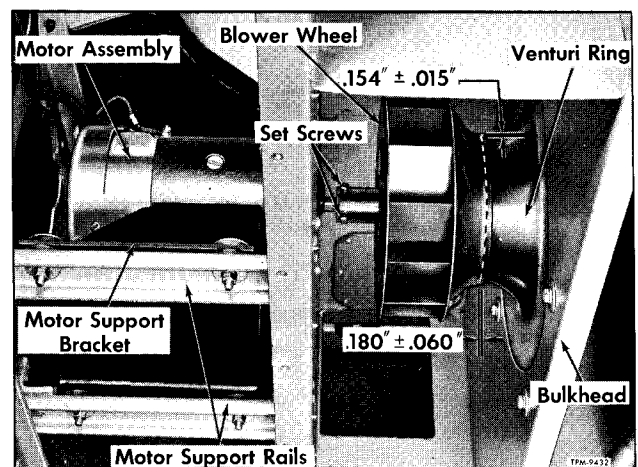

Figure 22—Blower Motor and Wheel Installed
Two blower and motor units are used to circulate air through the heating system. Both units are mounted on bulkhead at rear of the heating compartment (fig. 22).
2. Referring to figure 22, mark position of blower wheel to venturi ring, then loosen two set screws which secure blower wheel to motor shaft.
3. Slide blower wheel fore or aft on motor shaft to a position whereby wheel will overlap edge of venturi ring by $0.180'' \pm 0.060''$ as shown in figure 22. After obtaining this adjustment, tighten wheel set screws firmly. See figure 17 in AIR CONDITIONING (SEC. 26) for overlap dimensions with air conditioning.